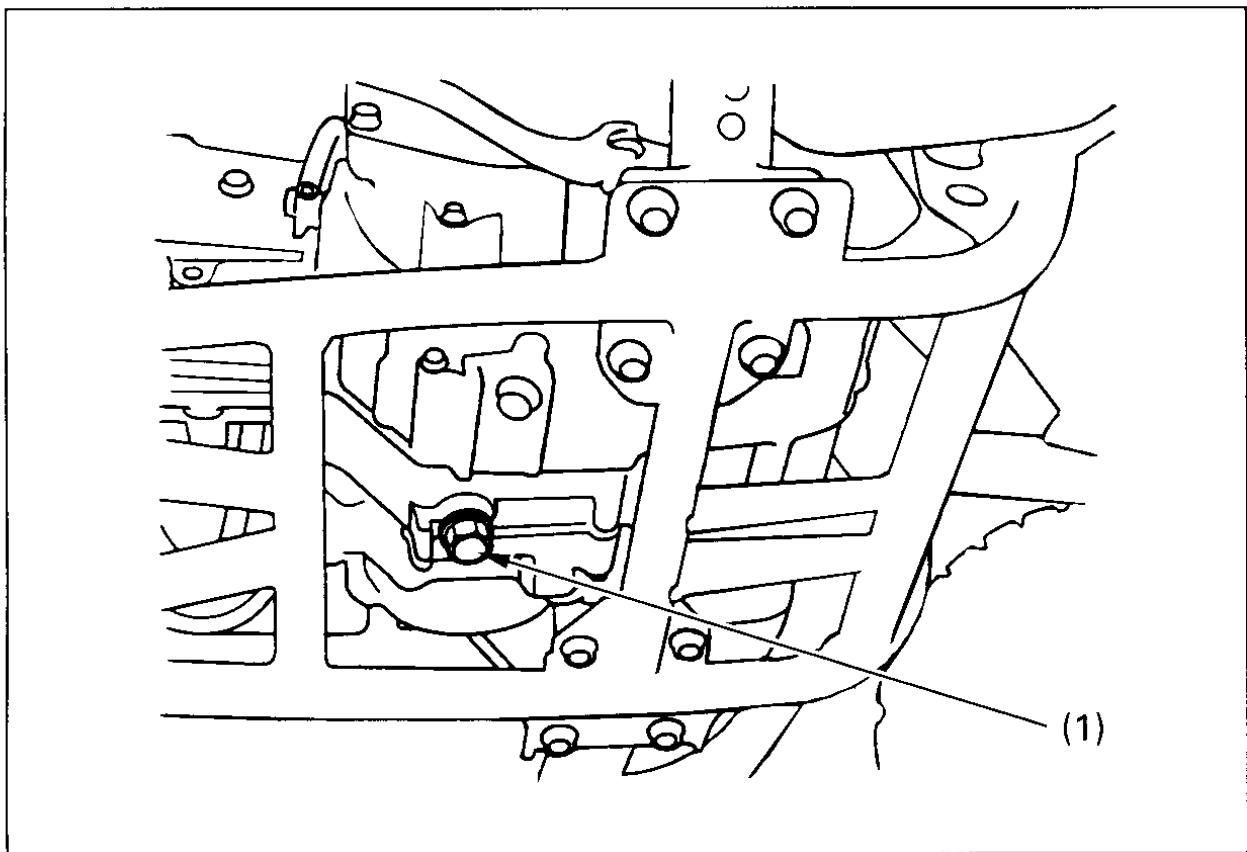

Fig. 4-10
2. Place an oil drain pan under the crankcase and remove the oil drain plug (Fig. 4-10).